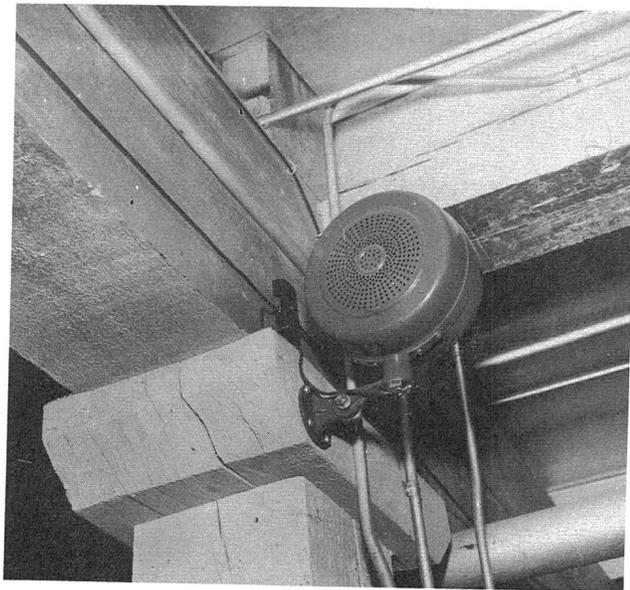

Figure 47 - Western Electric KS-14792, L-1 Loudspeaker
3.65 Cone-Type Loudspeakers - Two standard cabinet-type loudspeakers are available. The KS-12046 consists of a direct radiating dynamic-type loudspeaker housed in a walnut finish cabinet. A back-board for wall mounting is furnished as part of the speaker. A tapped auto transformer (KS-12048) is included for adjusting the impedance and the power at that speaker. This loudspeaker covers only a 70° frontal pattern and is less efficient than other cone-type speakers. This cabinet is shown in Figure 47.